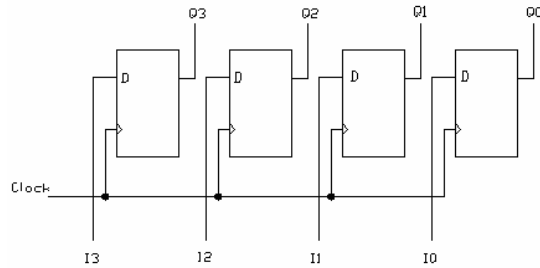

Figure 1: Simple 4-bit register
- 1- Build the 4-bit parallel-in parallel out register shown in Figure 1, use 4-switches as inputs and LEDs as the outputs. Change the inputs and record your results.